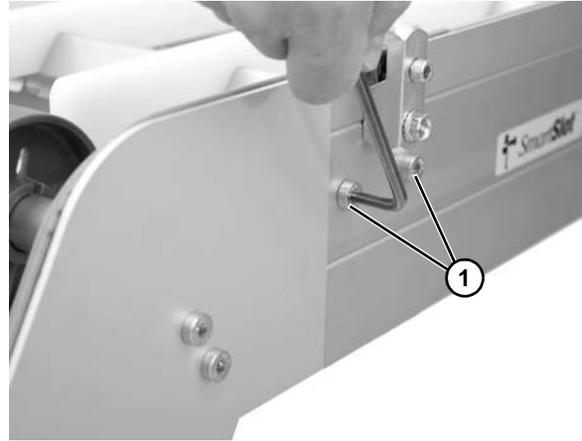

**Figure 86**
7. Remove belt return wearstrip (**Figure 86, item 1**). Repeat on opposite side.